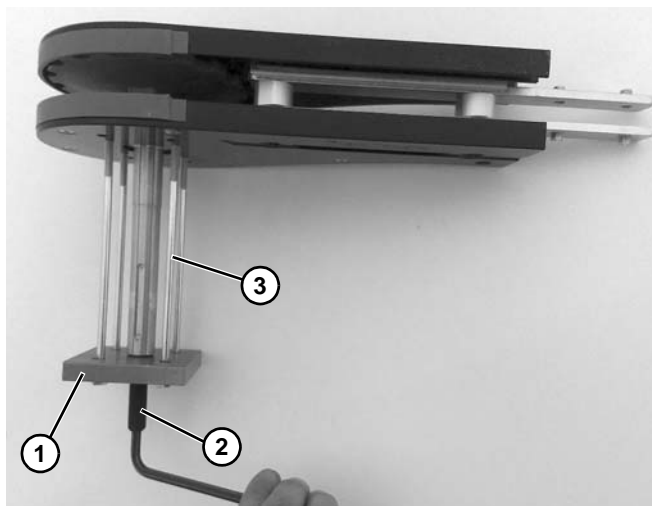
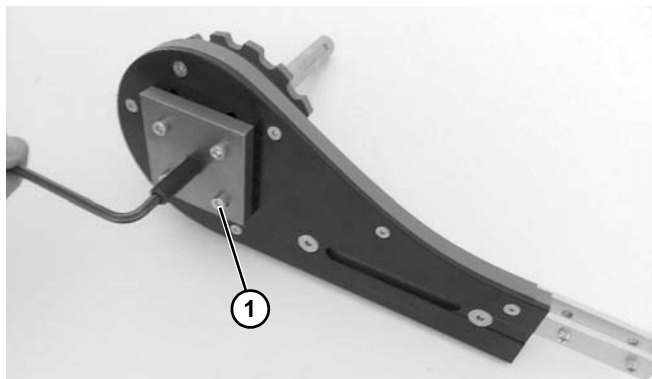

Figure 112
Figure 113
6. Use the bearing tool (**Figure 112, item 1**) to unseat bearings by inserting the four screws and turning the threaded rod (**Figure 112, item 2**) to push bearing out. NOTE: Insert the longer screws (**Figure 112, item 3**) on the drive shaft side and the shorter screws (**Figure 113, item 1**) on the non-shaft side.